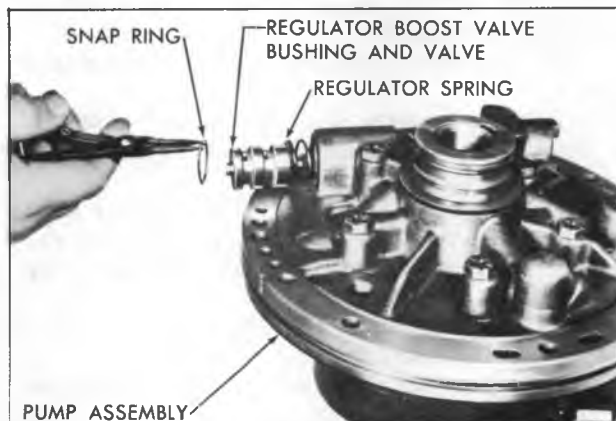

Figure 55—Removing Regulator Valve Snap Ring
2. Compress regulator boost valve bushing against pressure regulator spring and remove snap ring, using pliers (J-5403) (fig. 55).